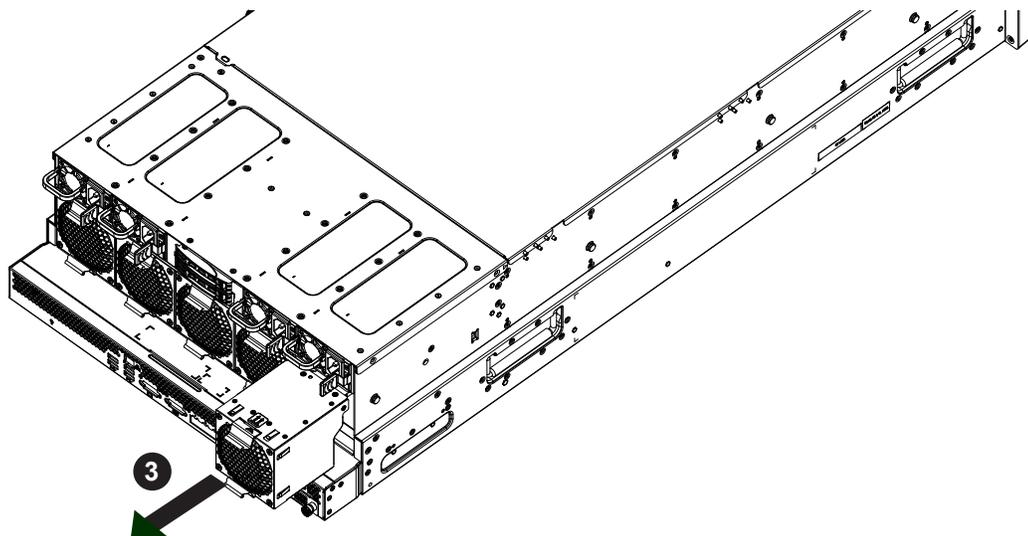

Figure 3-10. Removing a Fan From the Housing
2. Remove all four power supplies from the power bays. (Figure 3-10)